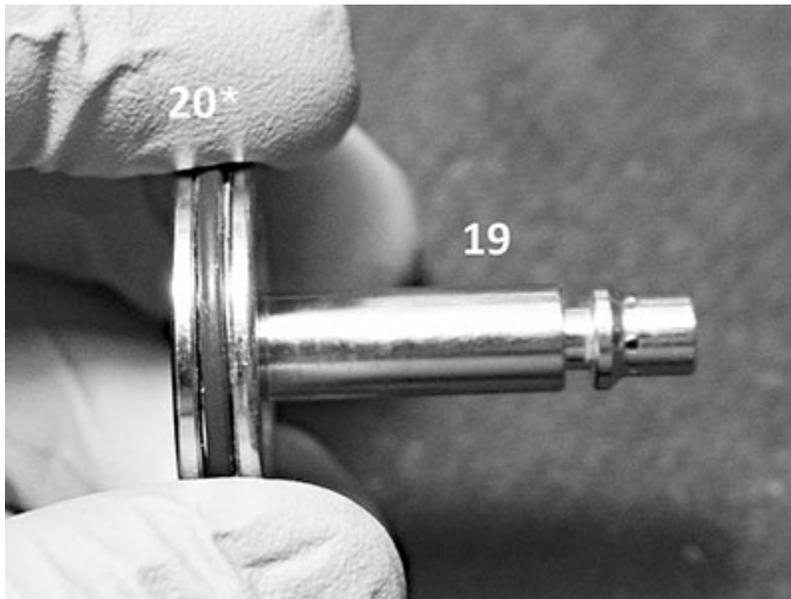

Fig. 20
1. The first step in the assembly of the now cleaned first stage is to lubricate and install the O-ring (20*) on the Piston (19) - Fig. 20.